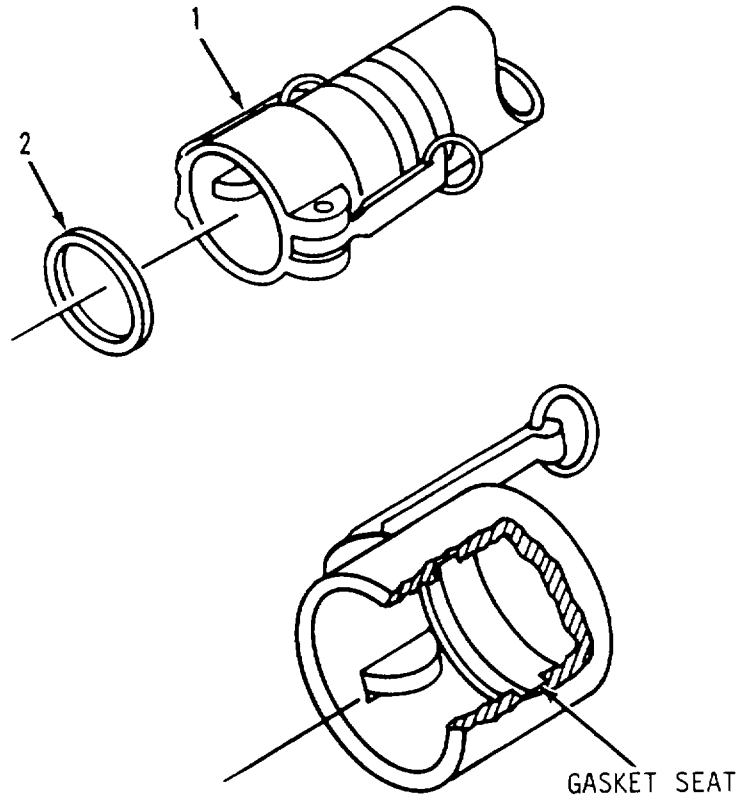

Figure 3-3. Quick Disconnect Repair.
- a. Removal. Refer to figure 3-3.
- (1) Disconnect female coupling (1) from water system (para 2-11d).
- (2) Pull gasket (2) from interior of female coupling (1).
- b. Installation. Refer to figure 3-3.
- (1) Using clean wiping rag, remove grit, sand, and dirt from gasket seat inside female coupling (1).
- (2) Position replacement gasket (2) in female coupling (1).
- (3) Press gasket (2) into gasket seat inside female coupling (1). There will be no ripples or bumps in gasket material when gasket is properly installed.
- (4) Connect female coupling (1) to water system (para. 2-11d).
- (5) Startup water system (para 2-13c) and test female coupling (1) for leaks.